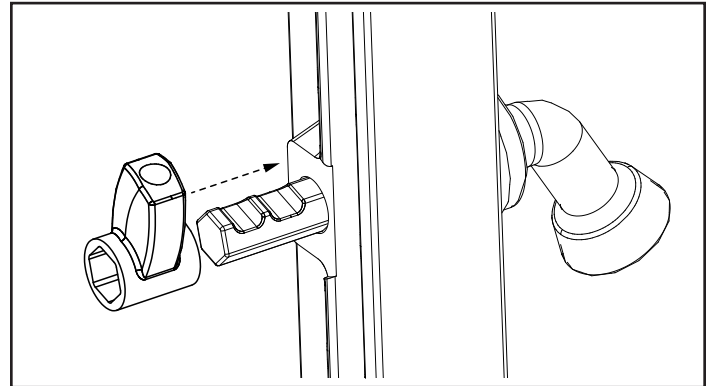

Figure 3
6. Align set screw hole in pawl with notches in handle shaft. Slide pawl onto shaft. The first notch for the large door and the second notch on the small door, Figure 3.